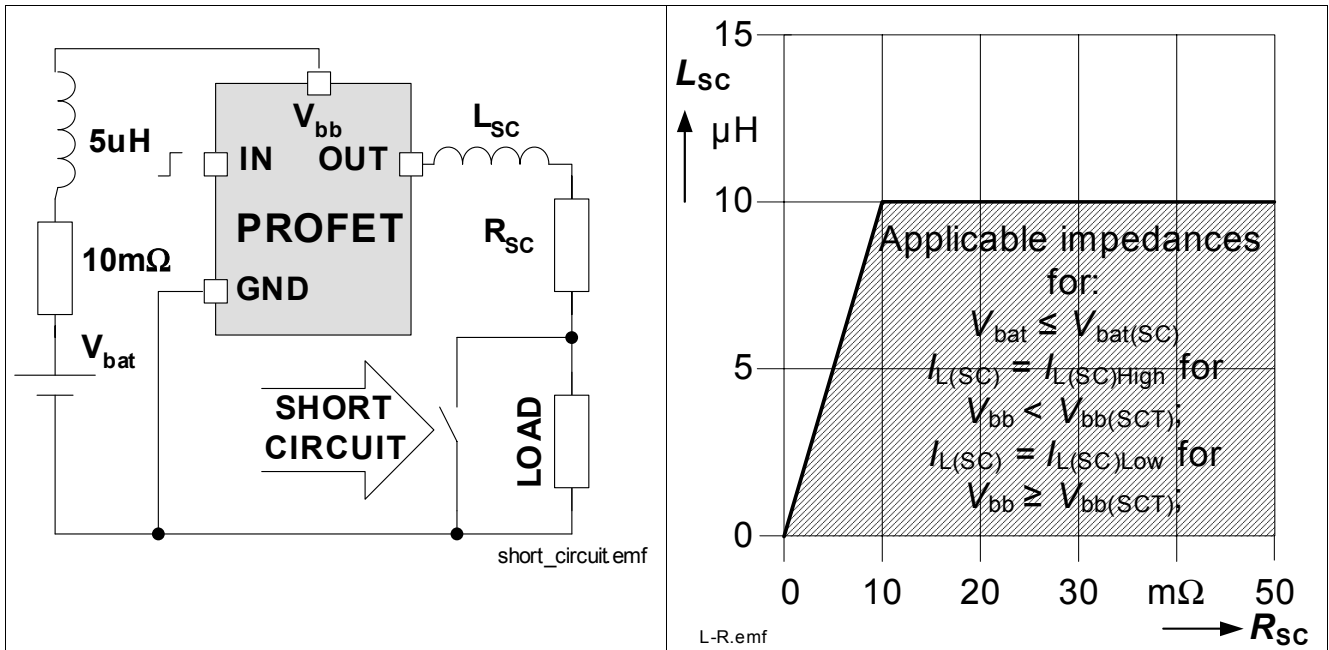

Figure 15 Short circuit
*Note: In case of a short circuit between OUT and ground, an impedance between  $V_{bat}$  and  $V_{bb}$  pin of the device (see Figure 15) may cause the device's supply voltage to drop below  $V_{bb(u)}$  before short circuit shutdown threshold is reached. In that case, the device will detect an undervoltage condition and behave as described in Chapter 5.7.*
The capability to handle single short circuit events depends on the battery voltage as well as on the primary and secondary short impedance. Figure 15 outlines allowable combinations for a single short circuit event of maximum, secondary inductance for given secondary resistance.